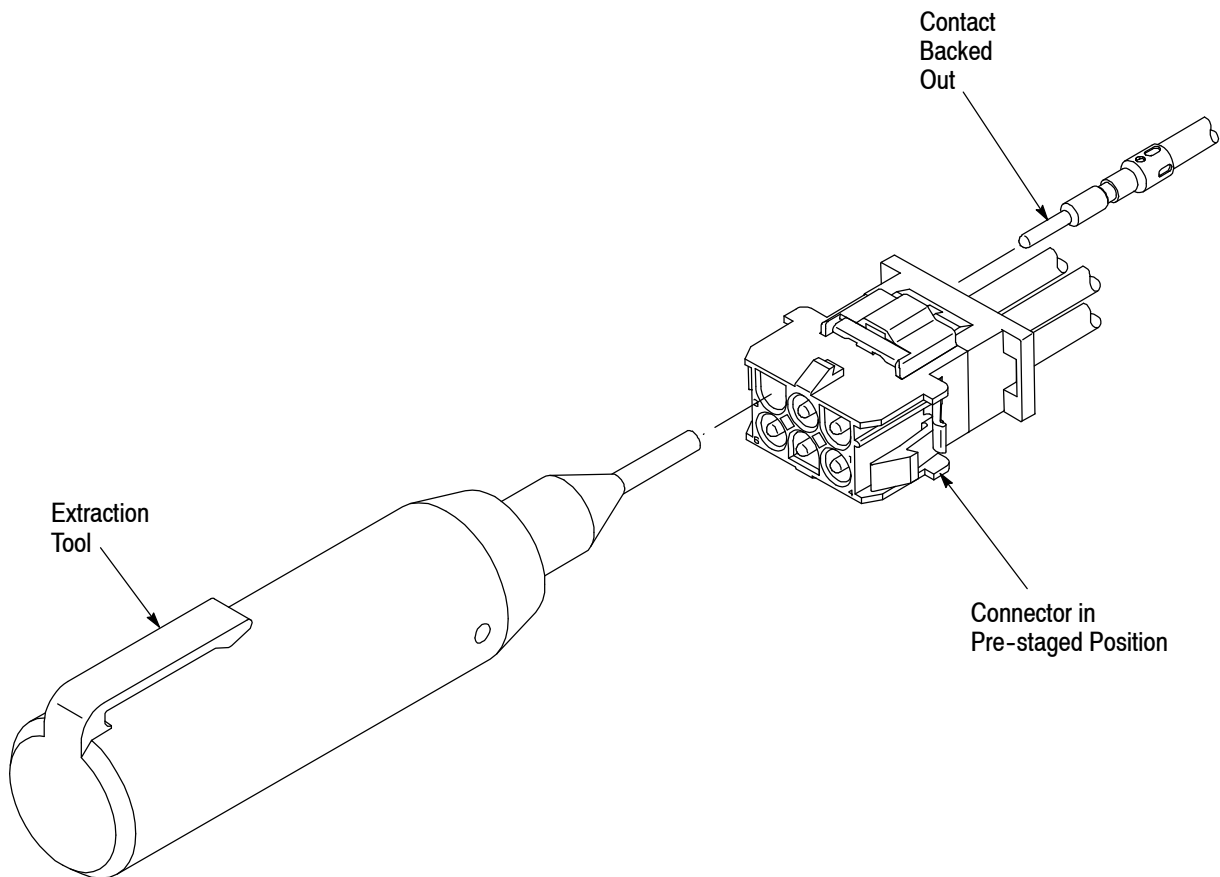

Figure 12
3.10. Repair/Replace (Figure 12)